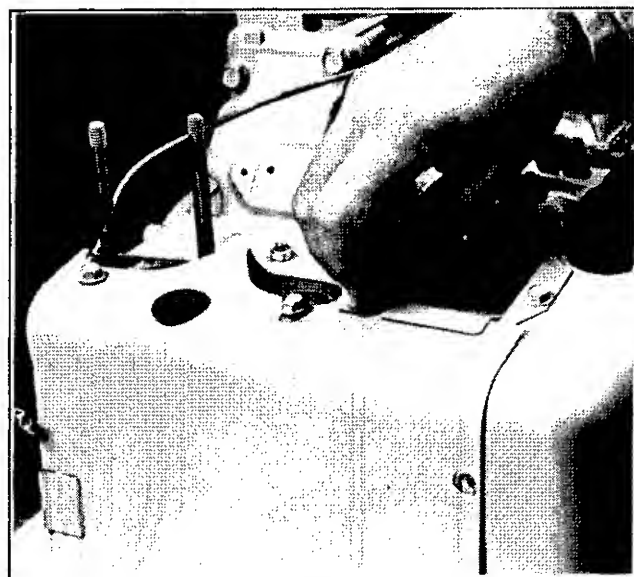

Figure 8-33. Attaching Cylinder Head Baffles
1. Attach both cylinder head baffles to engine. Top cylinder baffle and #2 cylinder head baffle are fastened together and must be installed at the same time (see Figure 8-33).